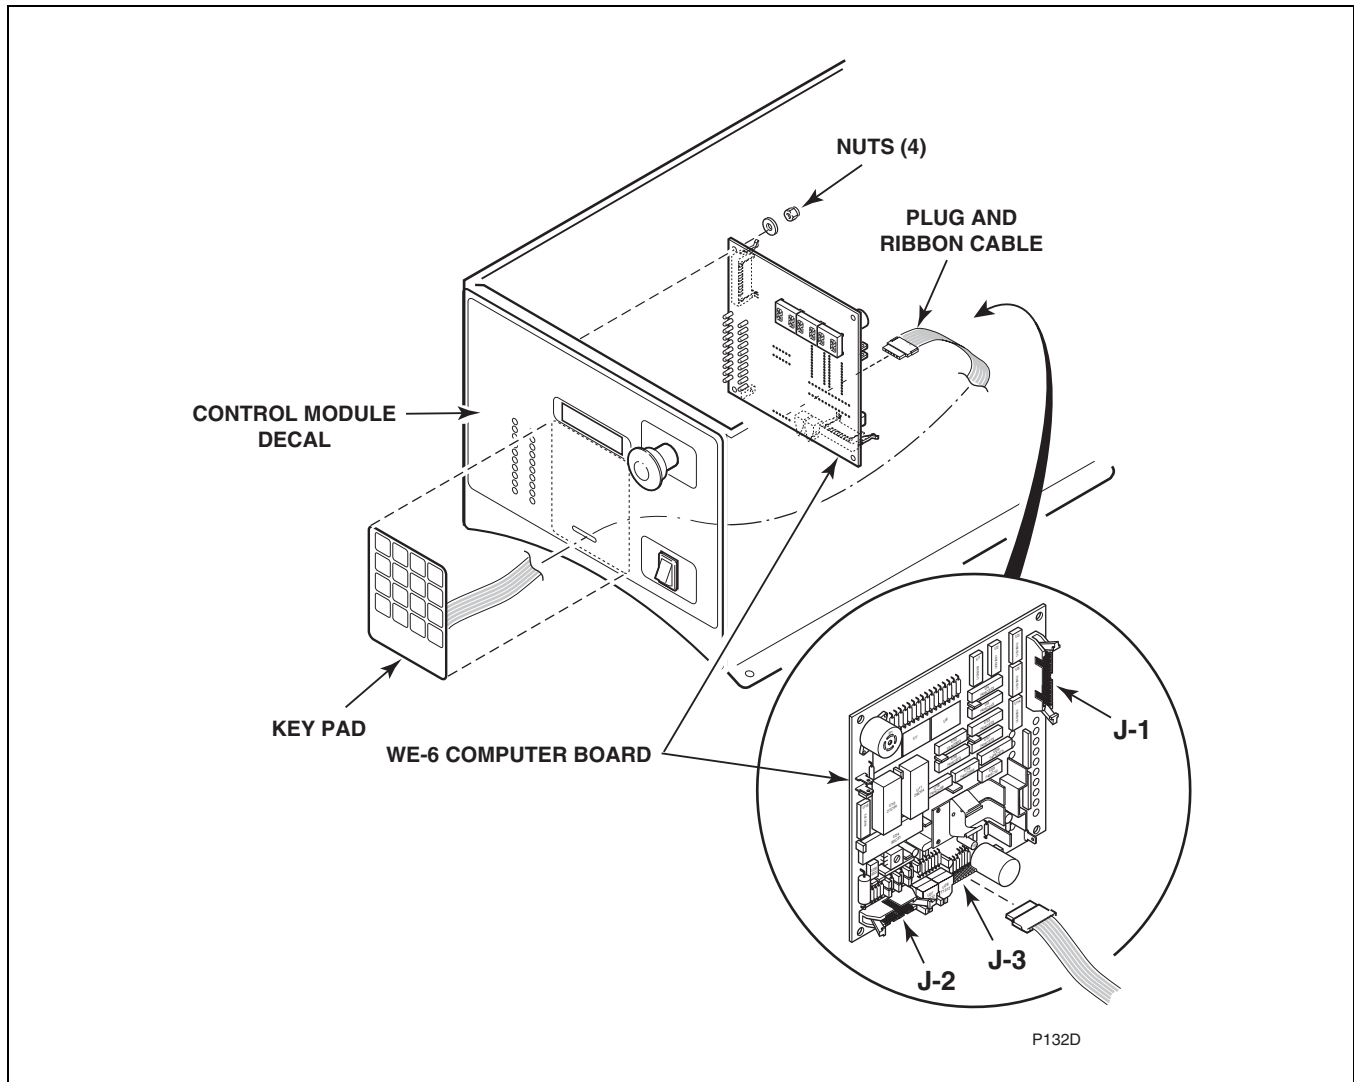
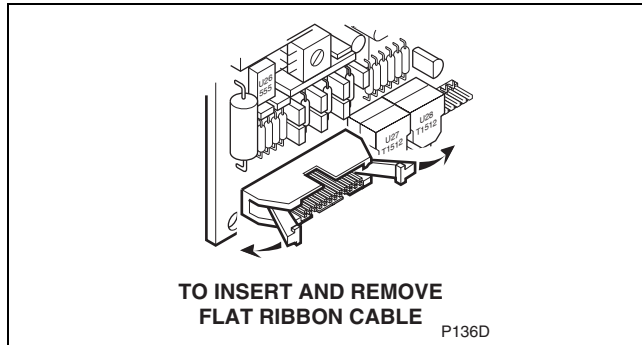
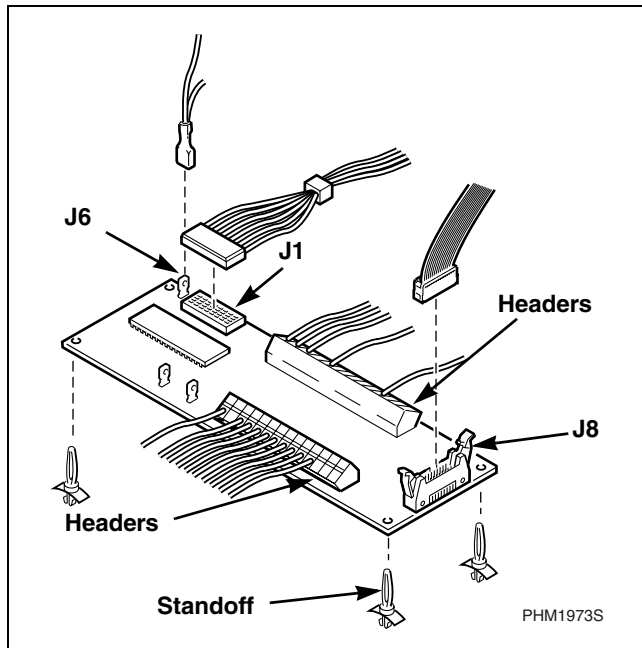

Figure 4
Figure 6
Figure 10
- e. Unplug the connector at J-3 (located on the bottom center of the computer board). Refer to *Figure 4*.
- d. Carefully connect the ribbon cable plug to J-3 at the bottom center of the computer board. Refer to *Figure 4*. The cable must not be twisted and the plug must be centered in the receptacle.
- Carefully disconnect the 16-conductor ribbon cable plug near the battery at J3, refer to *Figure 4*. Note the position of the red stripe to properly reinstall the cable. Use care when reconnecting this plug to avoid bending pins. Make sure that the pins are aligned with the sockets in the board before carefully seating the plug into the socket.
- Disconnect the 26-conductor ribbon cable connector at J1 by pushing on the “ears,” refer to *Figure 6*.
- Disconnect the remaining 16-conductor ribbon cable connector at J2 (refer to *Figure 4*) by pushing on the “ears.” Refer to *Figure 6*.
- d. Disconnect the 26-conductor ribbon cable at the center of the board (adjacent to the transformer) by pushing on the “ears.” Refer to Figure 6.
- Label the headers and remove them from the interface board, refer to Figure 10.
- Disconnect the 16-conductor ribbon cable plug at J8 (refer to Figure 10) by pushing on the “ears.” Refer to Figure 6.
- Label and disconnect the ground wire at J6. Refer to Figure 10.
- Carefully disconnect the 16-conductor ribbon cable plug from J1. Refer to Figure 10. Note the notch on the socket of the ribbon cable. During installation use this notch as a reference to connect this plug correctly.